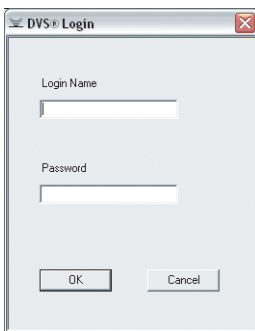

Figure 29 — DVS Login
1. Click the **DVS Plan and Review** icon on the Desktop or select **Start>Programs>DVS>DVS Plan and Review**. The **DVS Login** dialog box appears (Figure 29).